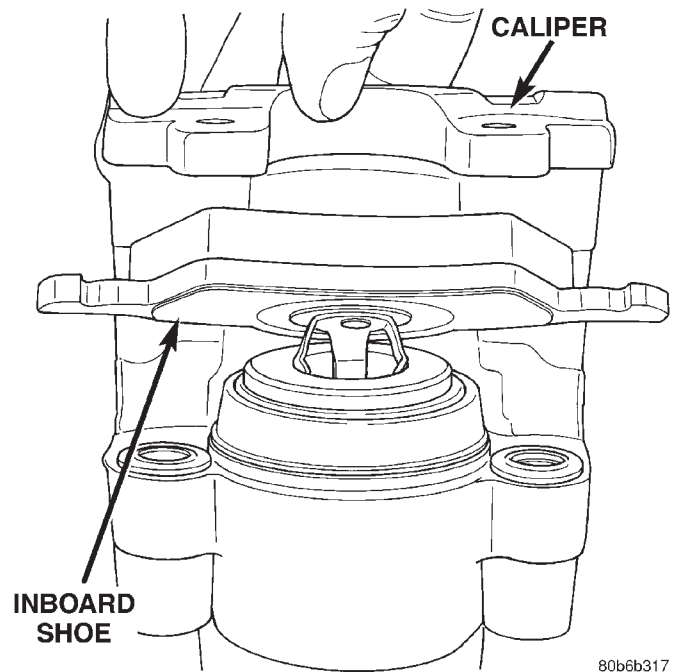

Fig. 40 Inboard Brake Shoe
- (7) Remove caliper from the anchor.
- (8) Secure caliper to nearby suspension part with wire. **Do not allow brake hose to support caliper weight.**
- (9) Remove the inboard brake shoe from the caliper (Fig. 40).
- (1) Install the inboard brake shoe onto the caliper (Fig. 40).